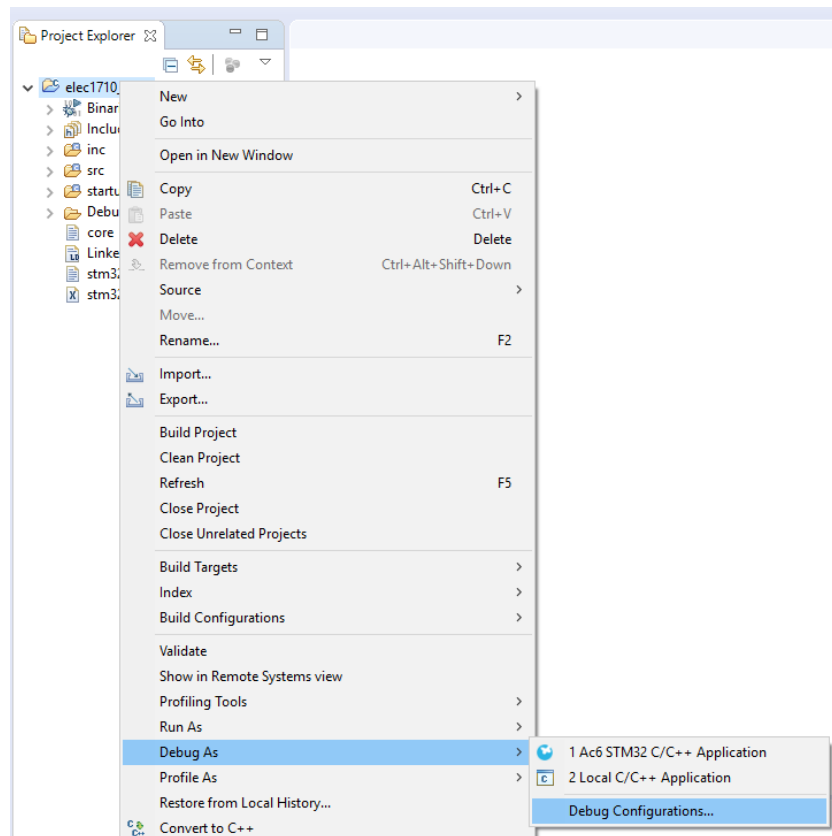

Figure 3: Opening the debug configuration.
1. Right click on the project name and select “Debug As > Debug Configurations...”, as shown in Figure 3.